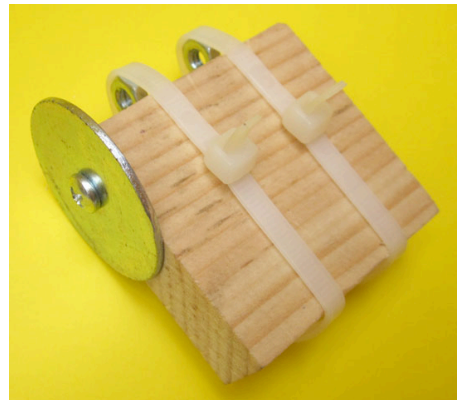

Figure 4
6. Use one of the sheet metal screws to screw the fender washer to the face of the wood block where the end of the machine screw was located. See Figure 4. It's best to drill a pilot hole first. Leave approximately 1 cm of the washer above the top of the block, so that the whole end of the screw will easily hit it when the screw is replaced.